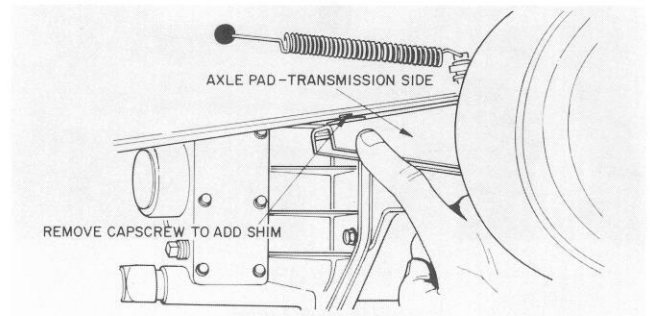

Figure 62
tween the scale and the coupling retainer. To correct this problem, install a 1/16 inch (1.6 mm) spacer between rear of mounting pad and bottom of frame (Fig. 62). By contrast, a transmission that is too low will not allow the ruler or scale to lay alongside the coupling retainer. To correct this problem, install a 1/16 inch (1.6 mm) spacer between front of mounting pad and bottom of frame.
3. To install spacers, remove the appropriate two capscrews and loosen the others (Fig. 62). If spacers must be added to front of mounting pad, remove front capscrews and loosen the back ones. Do just the opposite to add spacers at rear of mounting pads.